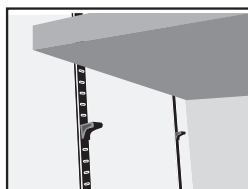

Figure 8.1
1. Remove the shelf from by lifting it off the support clips (tilting if necessary) and removing it from the safe (Figure 8.1).